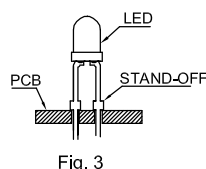
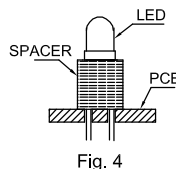

Fig. 3
Fig. 4
- ### 4. Use stand-offs (Fig.3) or spacers (Fig.4) to securely position the LED above the PCB.